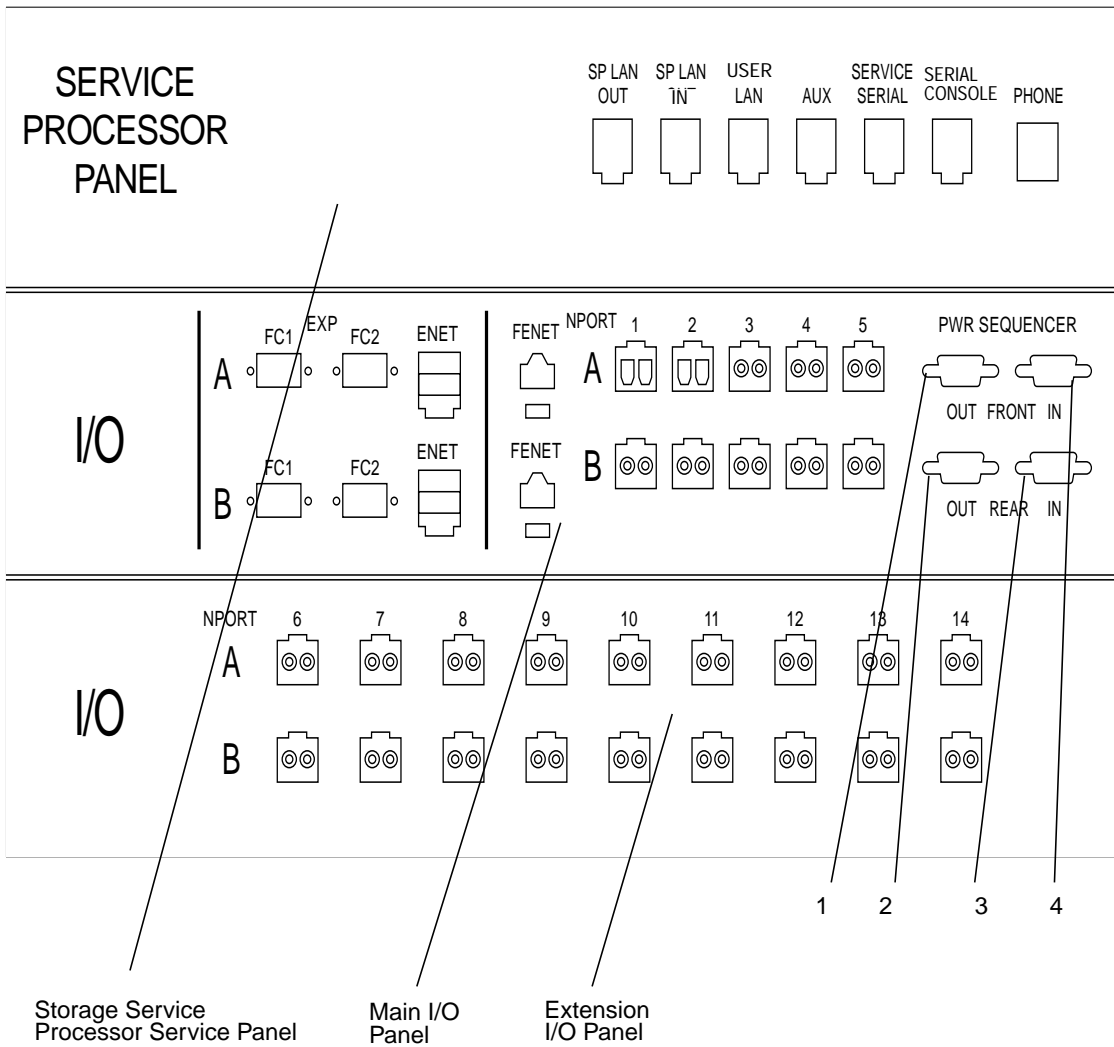
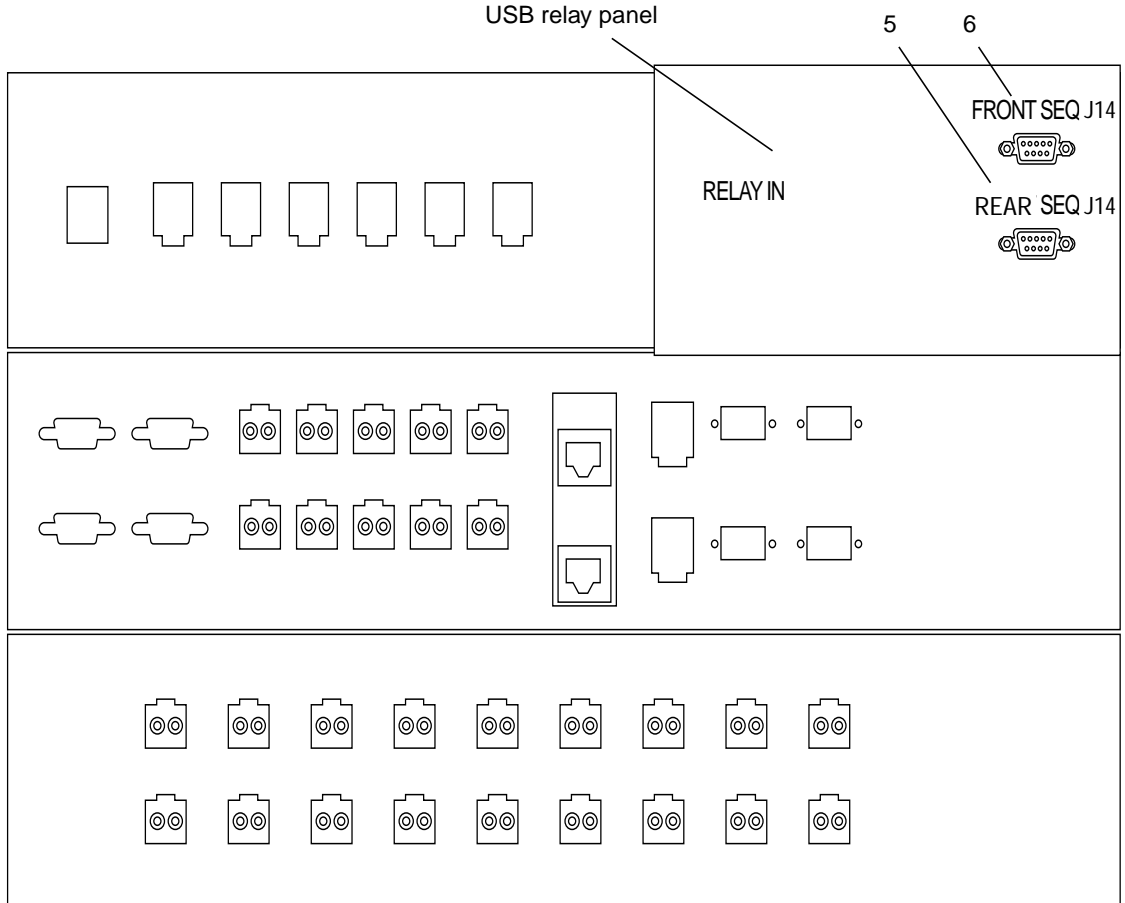

FIGURE 4-12 Front View of the Storage Service Processor Service Panel Connectors
FIGURE 4-13 Back View of the Storage Service Processor Panel Connectors
FIGURE 4-12 shows the front view of the Service Processor Panel and its connections to the Storage Service Processor, the Storage Service Processor accessory tray, and the Sun StorEdge 6020 arrays.
FIGURE 4-13 shows the back view of the Storage Service Processor panel. The two connections are in the upper right corner.
TABLE 4-6 shows the cabling information for the Storage Service Processor panel. Refer to FIGURE 4-13 and TABLE 4-7 to locate the cable designation in the first column of TABLE 4-6.
6. **Identify and label the location of each cable on the inside of the service panel through the placement shown in FIGURE 4-12 and FIGURE 4-13.**
9. Identify the location of each cable on the outside of the service panel by the placement shown in FIGURE 4-12 and FIGURE 4-13 along with TABLE 4-6 and TABLE 4-7.
See FIGURE 4-13 for the location of the J14 connections.